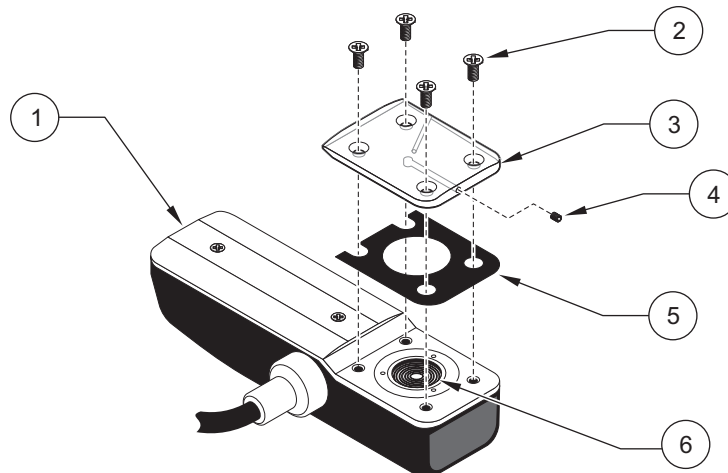

Figure 15 Removing the Protective Cover (Oil-filled Sensor)
2. Remove the screws from the protective cover (Figure 15 on page 35).
6. Reattach the gasket and the cover (note orientation in Figure 15 on page 35). Tighten the screws until the gasket starts to compress.